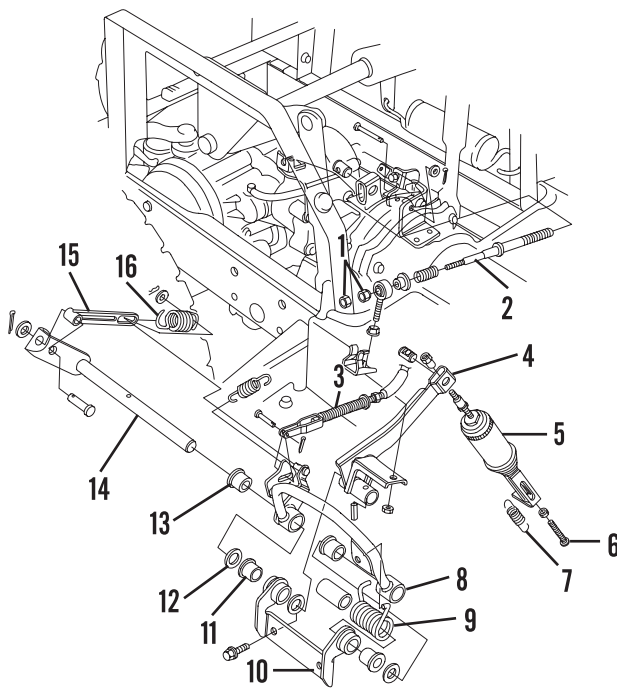

Fig. HN1-6—Exploded view of clutch linkage. Adjust clutch rod (2) length by turning nuts (1) at rod end.
Adjust the shift lever free play by altering length of clutch rod (2—Fig. HN1-6). Turn the adjusting nut (1) clockwise to increase free play or counterclockwise to decrease free play.